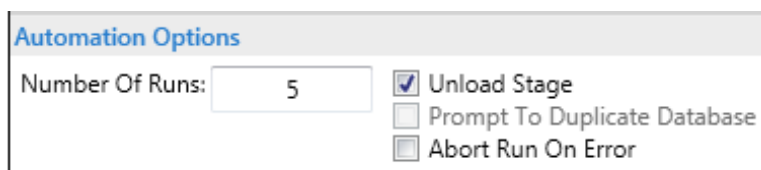

Figure 4-15: Options at the Bottom of the Automation Editor
- 8 If desired, change the Automation Options at the bottom of the Automation Editor (see Figure 4-15).